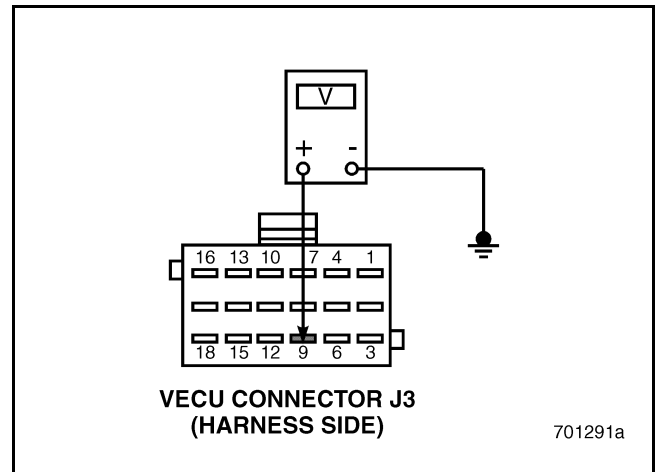

Figure 580
4. Measure the voltage between VECU connector J3 pin 9 and a good ground (see Figure 580).